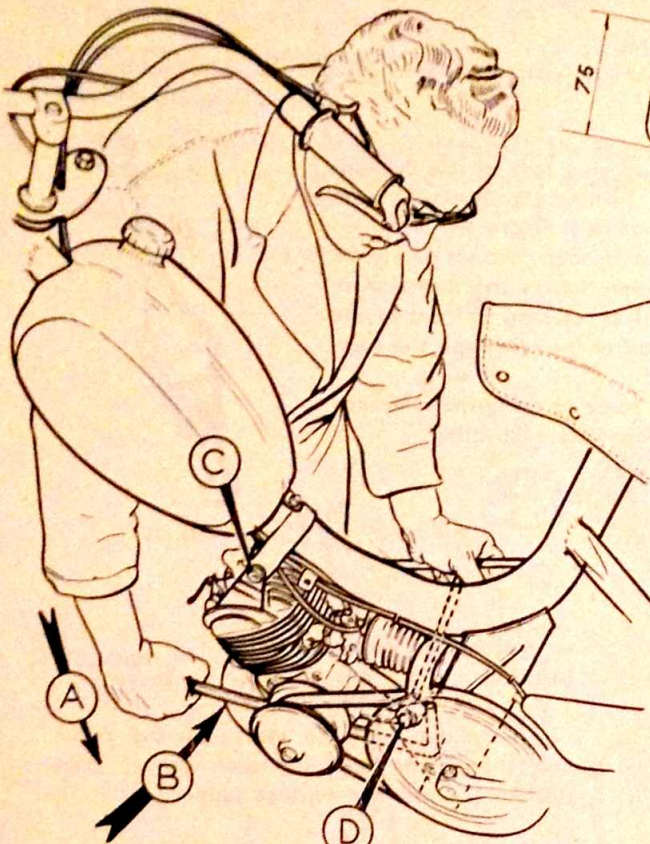

Fig. 28
3. Introduce the lever into the working position (see fig. 28).
lelism of the belt with the rim of the large pulley (see fig. 28).